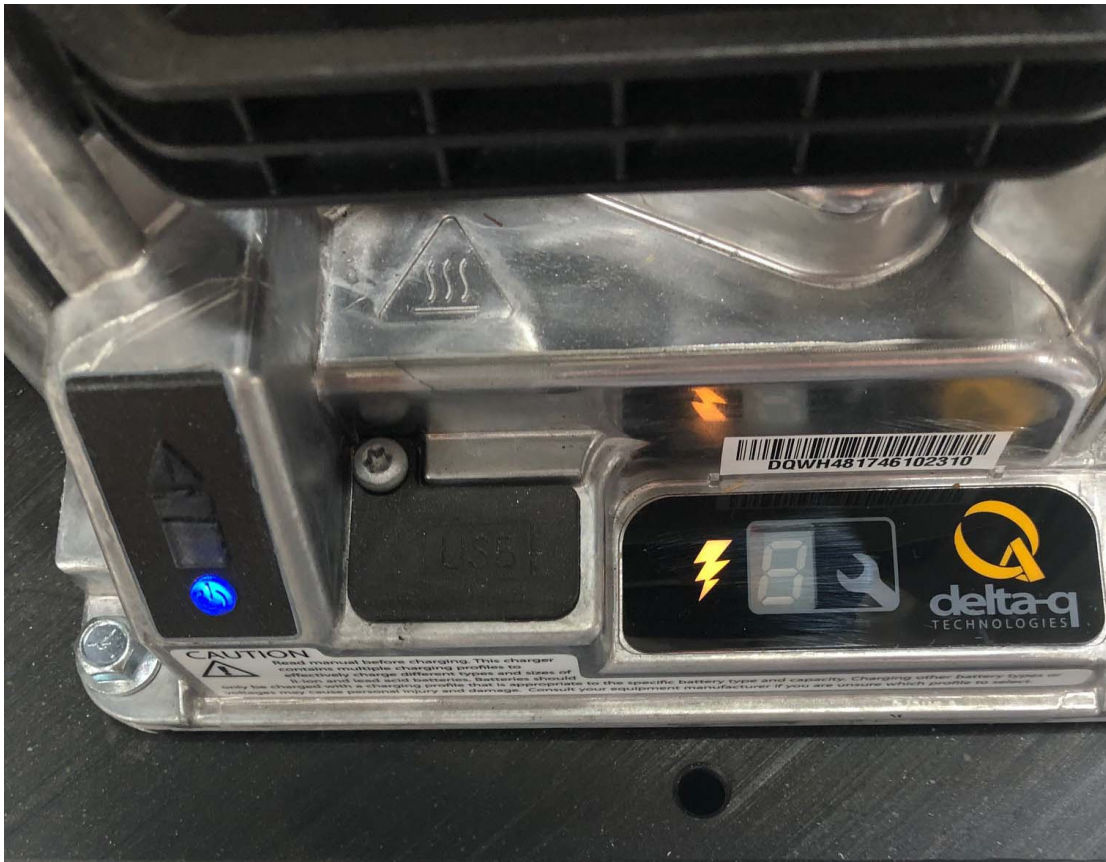

Fig. 38
2. When the delta-q charger is powered and charging the lightning bolt that is located next to the LCD display on the charger will be illuminated. Note that the blue power indicator light is illuminated as well when the charger is plugged into source power. When the batteries have been fully charged, the lightning bolt will no longer be illuminated. (Fig. 38)